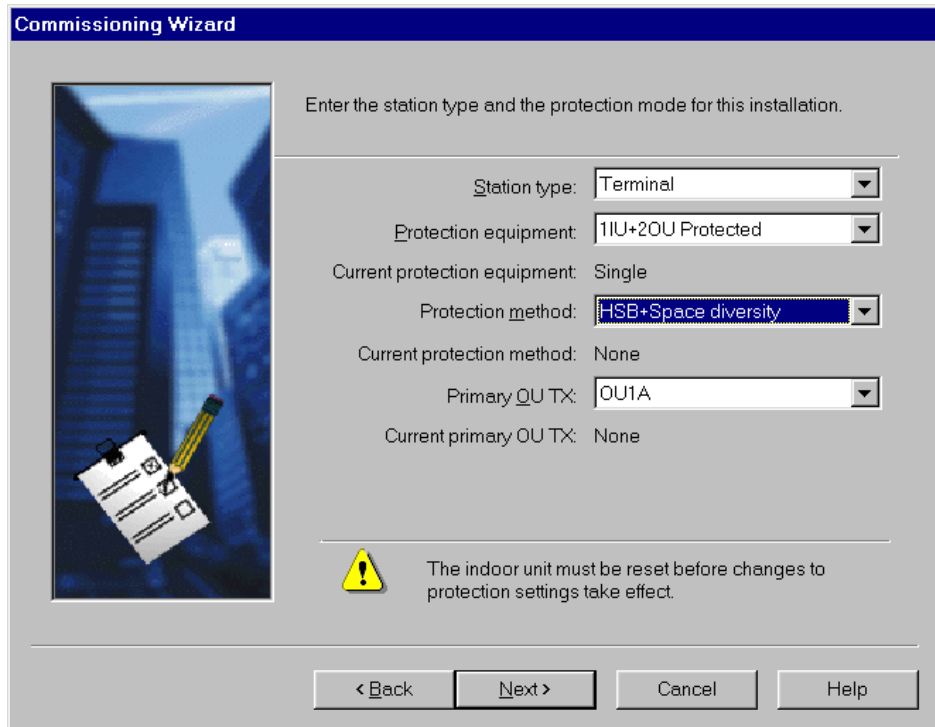

Figure 10. Station type and protection mode page
3. Select the station type and protection mode (see Figure 10). See *Product Description* for more information on the available protection methods and station types.